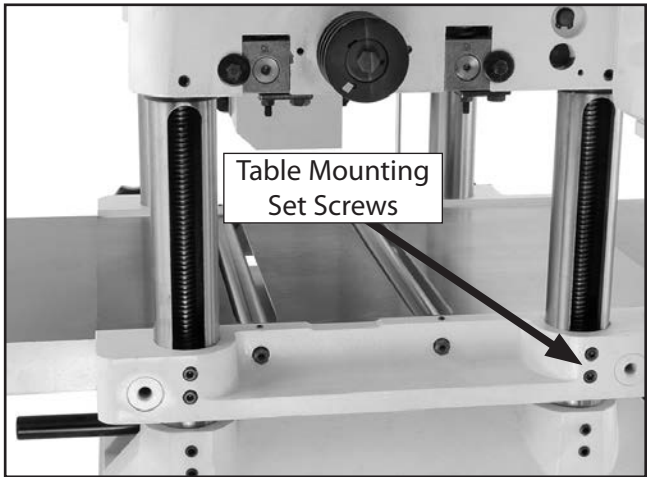

Figure 69. Table mounting screws.
1. Use the table mounting screws shown in **Figure 69**. Loosen the screws and lift/lower the table until the table and the cutterhead body are parallel with each other and the table is parallel with the head casting from front to back. This may require some trial and error.